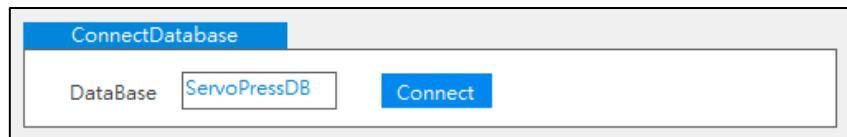
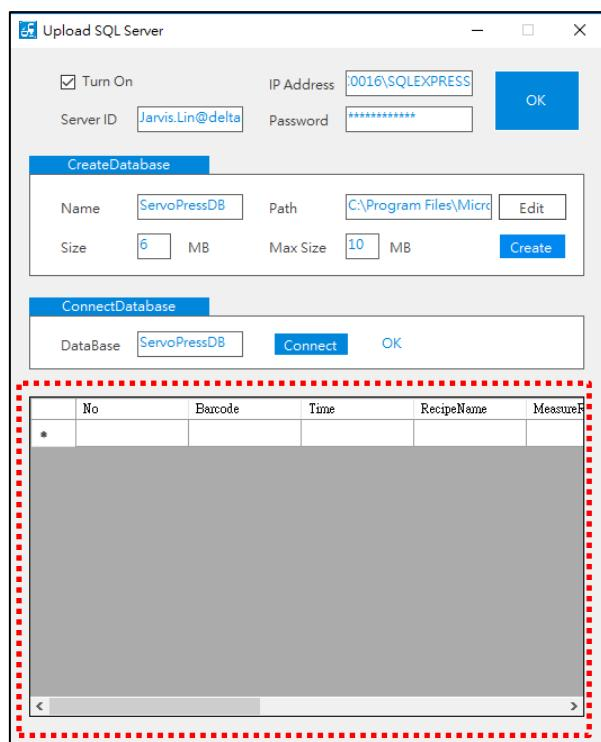

Figure 5-1-7 Connect Database
Figure 5-1-8 Database connection test completed
- (3) **Connect Database:** If the current server contains assigned databases created by DIAServoPress, it can be accessed directly through the Connect function according to the database name, as in Figure 5-1-7 Check [Turn on] and click [Connect]. The target database fields and existing data will be displayed in the below window, as in Figure 5-1-8. Verify proper connection before turning on the SQL database upload function.